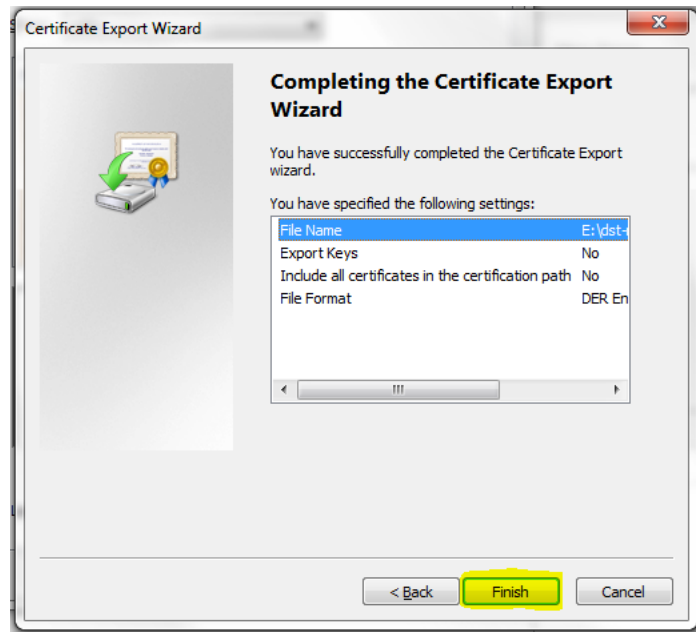

FIG. 470 Certificate Export Wizard - Completing the Certificate Export Wizard
11. Click **Finish** (FIG. 470):